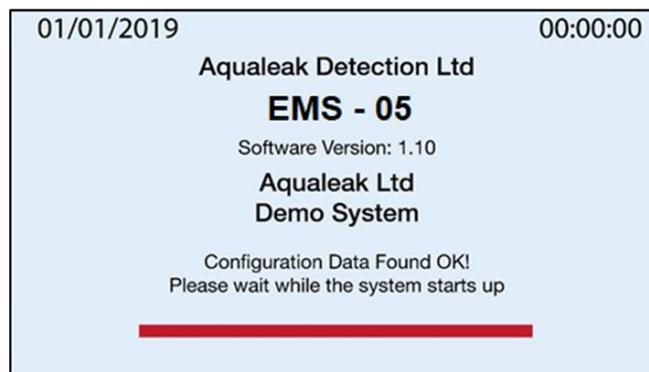
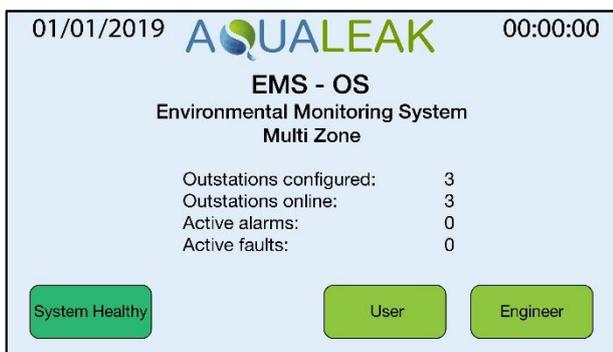
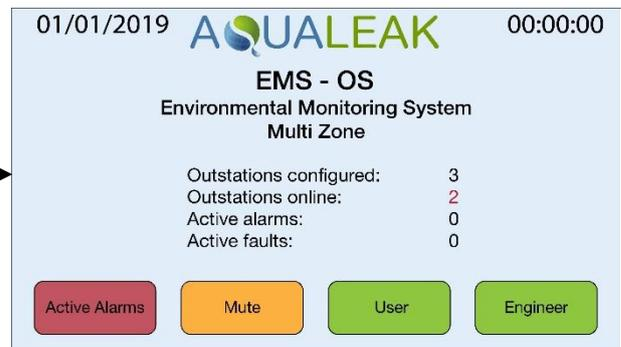

Figure 28: EMS-5X Boot Screen (Loading .xml Configuration)
Figure 29: Healthy EMS-OS Summary Screen
Figure 30: Active Alarm EMS-OS Summary Screen
There are minor differences between displays of the EMS-5X, 10X and OS. In addition to model numbers (e.g. **Figure 28** and **Figure 29**), the EMS-OS will also display additional information regarding the status of connected Outstations (i.e. number configured and online).
- 1. **Boot screen:** includes software version and configuration status (**Figure 28**).
- 2. **Summary screen:** includes system status and log-in (**Figure 29** and **Figure 30**).